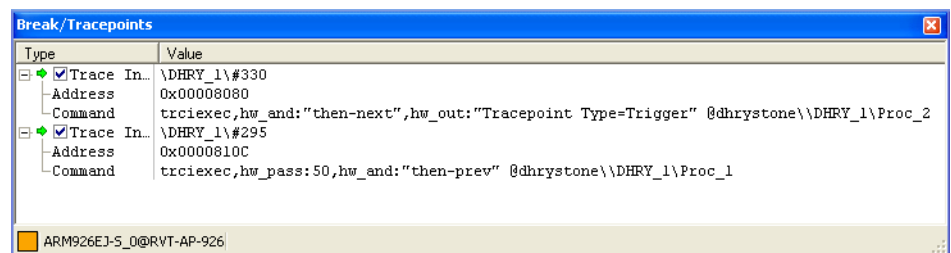

Figure 10-95 Break/Tracepoints view with conditional tracepoints set
5. If you want to view the tracepoint details, select **View → Break/Tracepoints** from the Code window main menu to open the Break/Tracepoints view. Figure 10-95 shows an example: